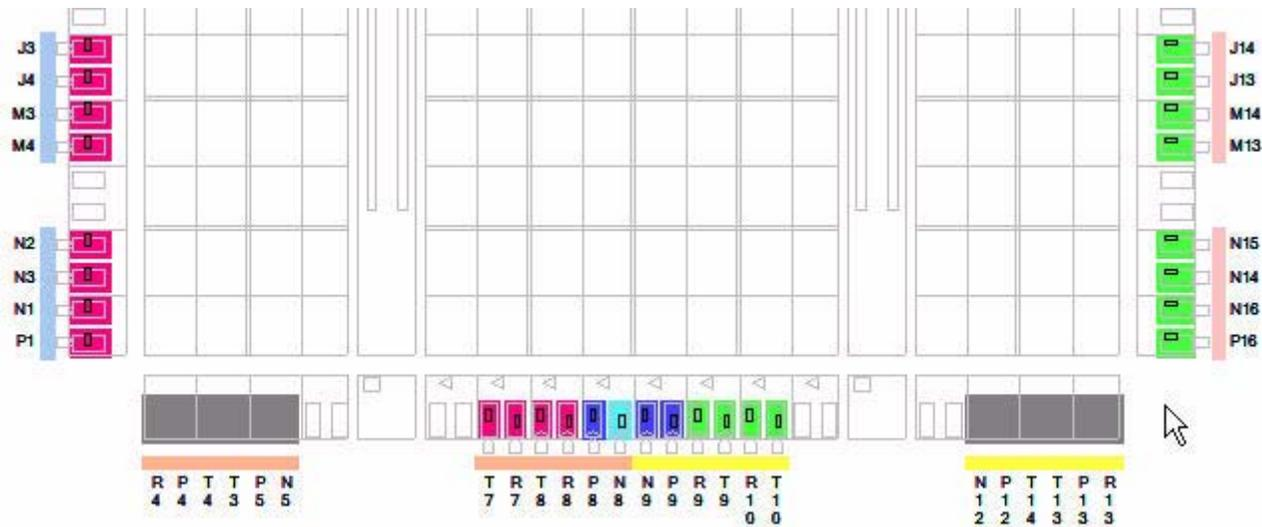

Figure 3: Signal placement suggestions
5. Place other signals (Figure 3) based upon the suggestions in the following sections.